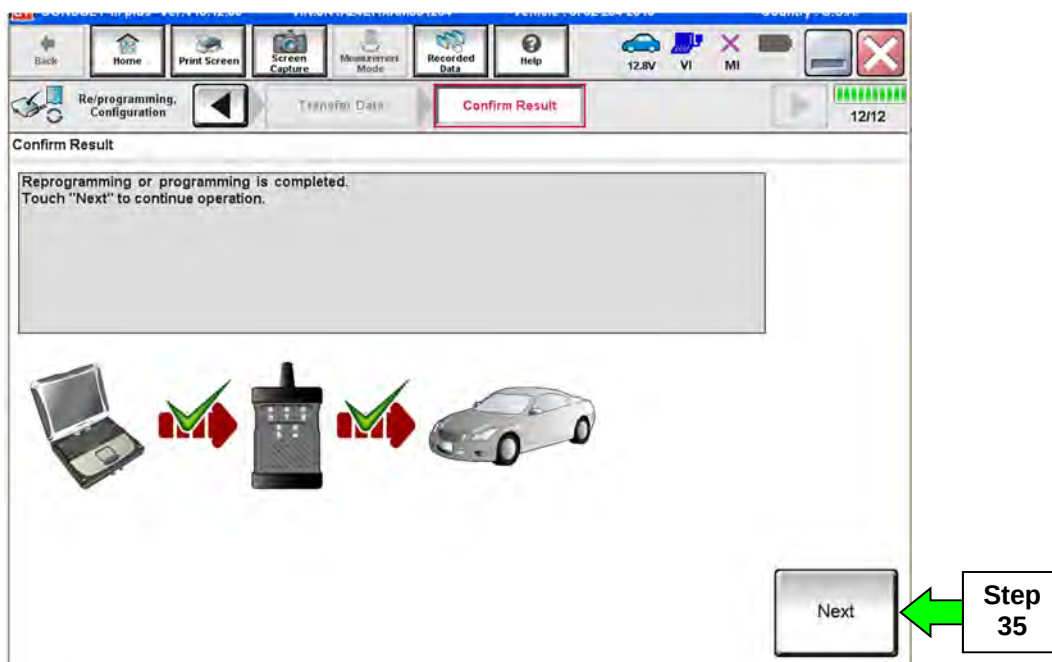

Figure 18
33. When the screen in Figure 18 displays, the reprogramming is complete.
NOTE: If the screen in Figure 18 does not display (reprogramming does not complete), refer to the information on the next page.